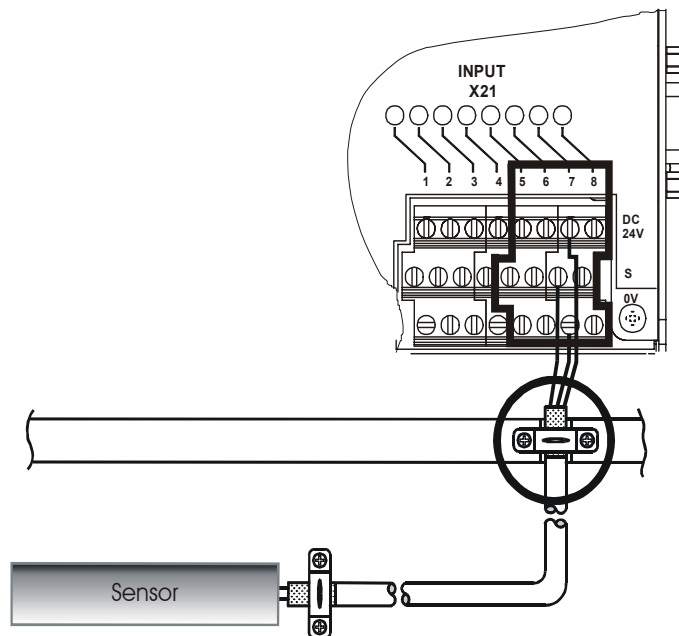

Fig. 2: Shielding of screw terminals in conformity with the EMC standards.
- When connecting the single-channel and dual-channel counter, make sure that the sensor lines are properly shielded and that the shield is connected with the greatest possible surface area. The shield is to be connected to a separate grounding bar in close vicinity to the input terminal (for more information refer to Fig. 2).